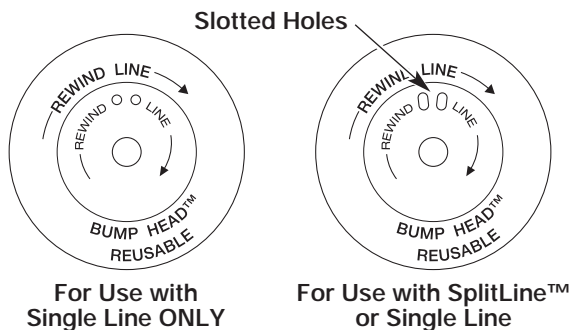

Figure 15
**NOTE:** *SplitLine™* can only be used with the inner reel containing slotted holes. Single line can be used on either type of inner reel. Use Figure 15 to identify the inner reel you have.